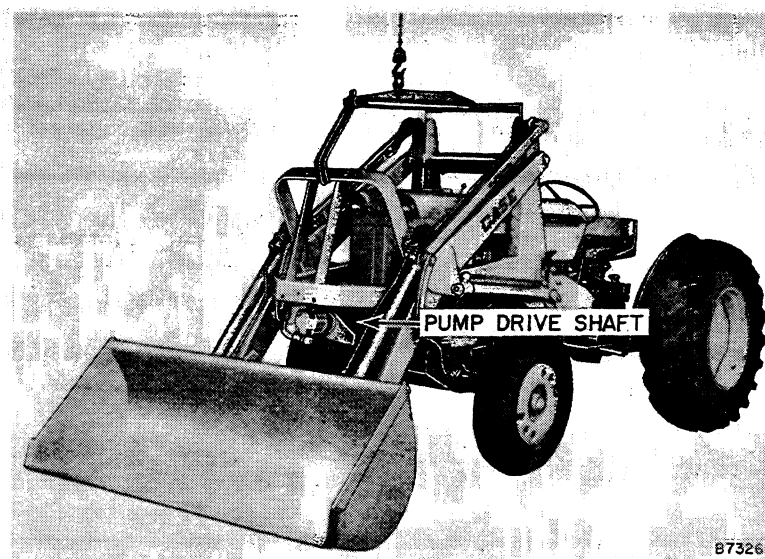

Figure 31 - Removing Loader
2. Connect hoist to Loader with chain or tool as shown in Figure 31.
5. Place a protective cloth over radiator shroud and side panels to prevent scratches on the paint, see Figure 31. Back the Tractor away from the Loader.